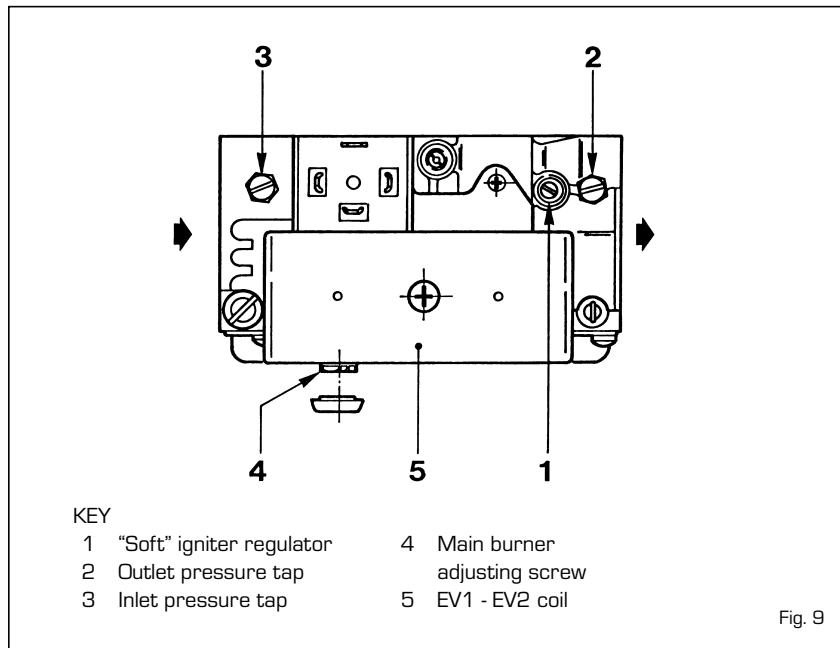
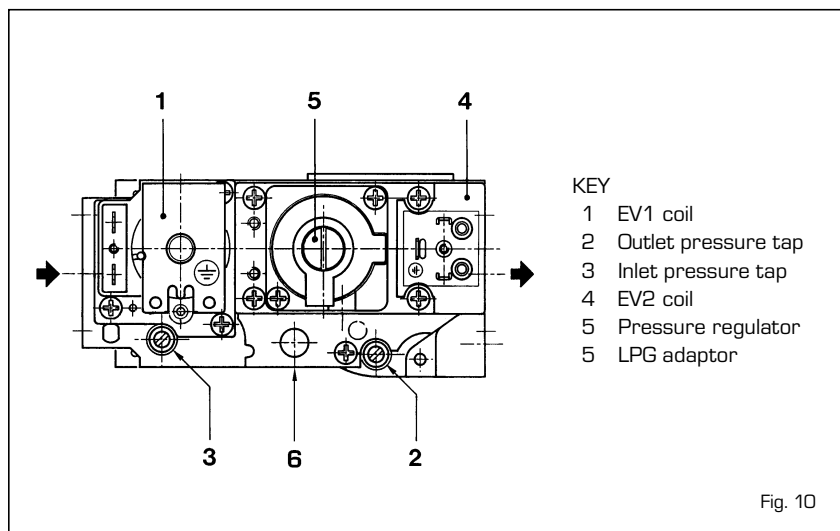

Fig. 9
Fig. 10
Standard "RX 19-26" boilers with electronic ignition feature a SIT 830 TANDEM gas valve (fig. 9). When the boiler is ignited for the first time, it is always better to purge the pipe through the pressure tap [3]. Remove the plug on the pressure regulator [4] to adjust the main burner gas pressure.
The electronically ignited "RX 37÷55" boilers are equipped with the HONEYWELL VR4605C gas valve (fig.10). When igniting the boiler for the first time, it is always advisable to purge the pipe by opening the inlet pressure tap [3]. To adjust gas pressure to the main burner remove the plug on the pressure regulator [5].
- Remove the plug on pressure regulator and tighten the adjusting screw [4 fig. 9 - 5 fig. 10].
[6 fig. 10].